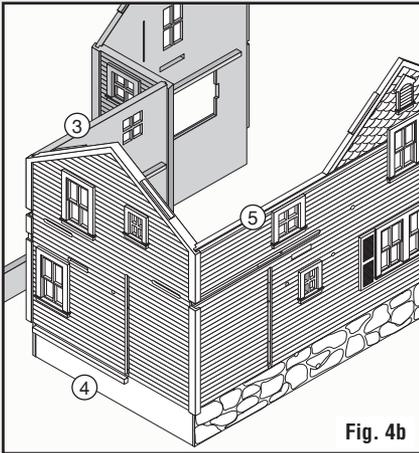

Fig. 4b
- Glue Right Wall ④ to Front Door Wall ③. Glue Back Wall ⑤ to Right Wall ④. (Fig. 4b)